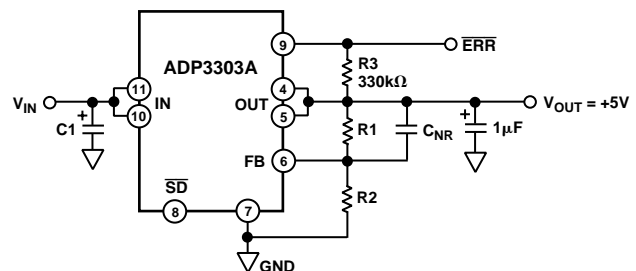

Figure 21. Noise Reduction Circuit
**Noise Reduction Capacitor (CNR):** to reduce the ADP3303A’s low output noise by 6 dB–10 dB, a noise gain limiting capacitor can be connected between the feedback (FB) pin (Pin 6) and the OUT pins as shown in Figure 21. Low leakage capacitors in the 100 pF–500 pF range provide the best performance. Larger capacitors will slow down the output transient response. CNR is not needed in low noise applications where fast load transients are not expected.
The proprietary thermal coastline TSSOP-14 package of the ADP3303A, in conjunction with the recommended PCB layout shown in Figure 21, yields a thermal resistance of 96°C/W. As a result, the die temperature rise for the example circuit is: